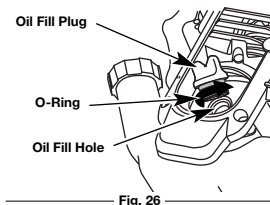

Fig. 26
**NOTE:** Make sure the O-ring is in place on the oil fill plug when checking and changing the oil (Fig. 26).